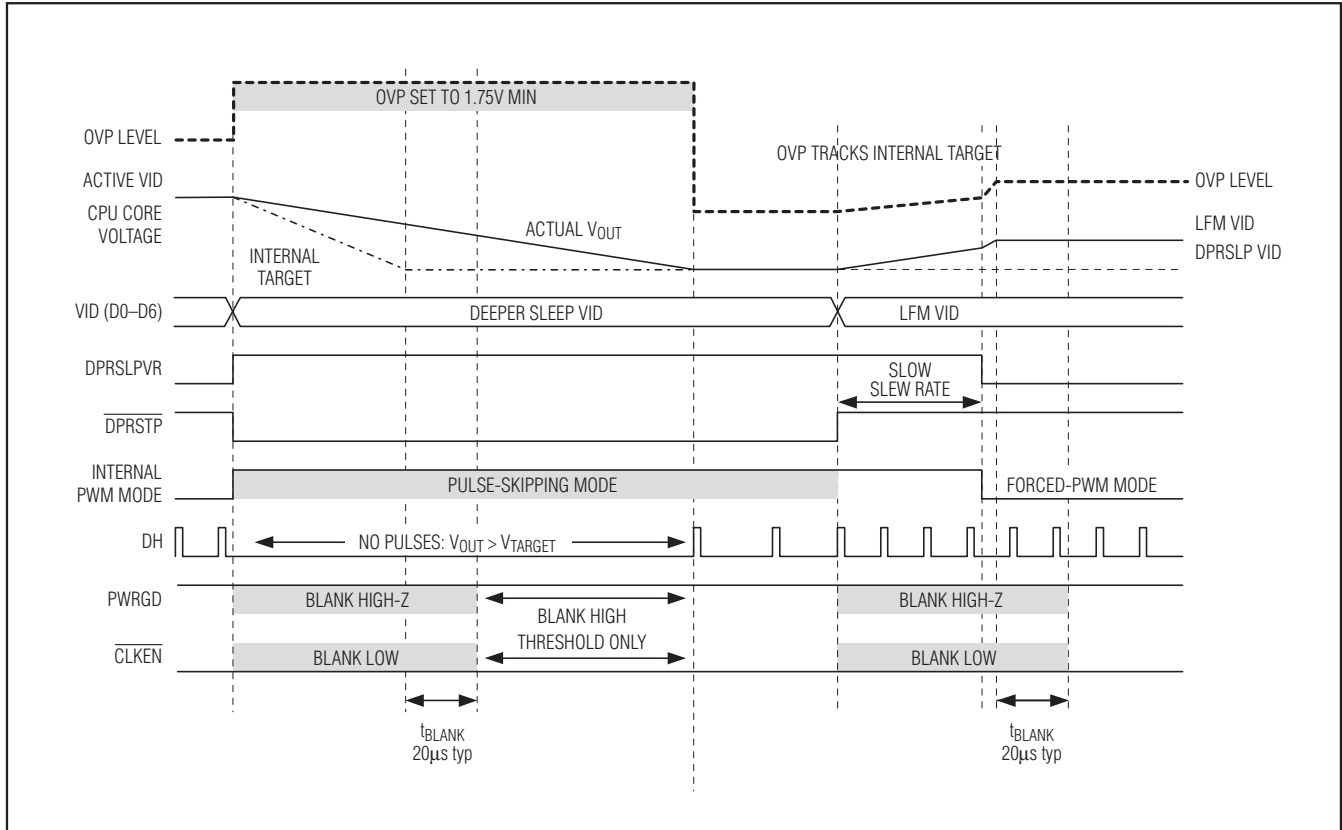

Figure 7. IMVP-6 Slow C4 Transition
- Slow C4 deeper sleep exit:** When exiting deeper sleep (DPRSLPVR stays high, $\overline{\text{DPRSTP}}$ pulled high) while the output voltage is regulating to the deeper sleep voltage, the MAX8796/MAX17401 remain in skip mode and ramp the output voltage to the LFM DAC code provided by the processor at 1/4 the slew rate set by RTIME. The controller blanks PWRGD and $\overline{\text{CLKEN}}$ (forced high impedance) until 20 μs after the transition is completed. See Figure 7.